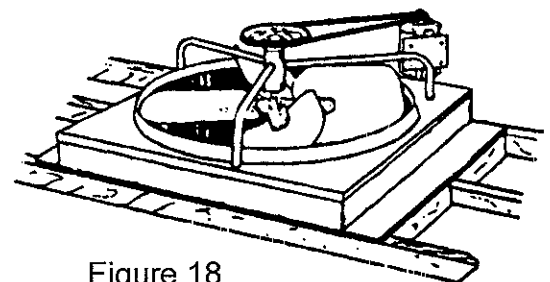

Figure 18
5. Lift fan through opening into attic and place it on the platform centered over the opening. A good method of securing the fan in location is to drive nails part way into platform beside the plenum, two per side (See Figure 18).